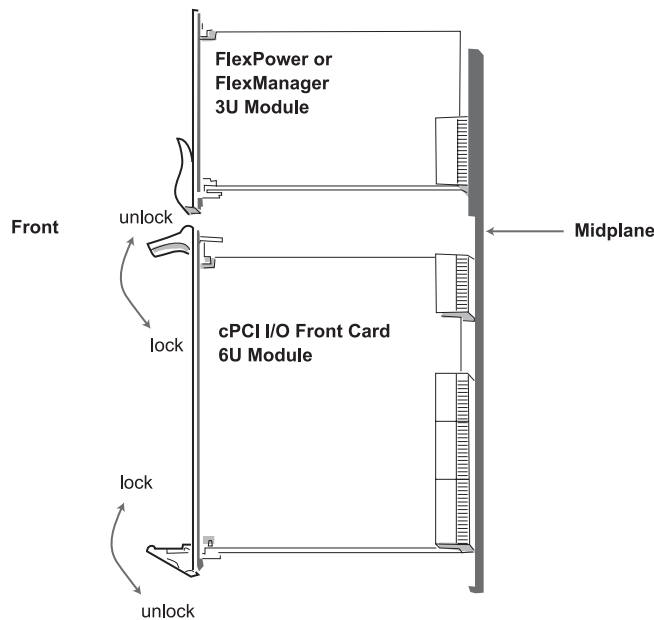

Figure 4.23 3U and 6U Modules
- 1 Push the ejector latch handles toward each other (at the same time) while applying forward pressure to secure the module to the system chassis. See Figure 4.23.